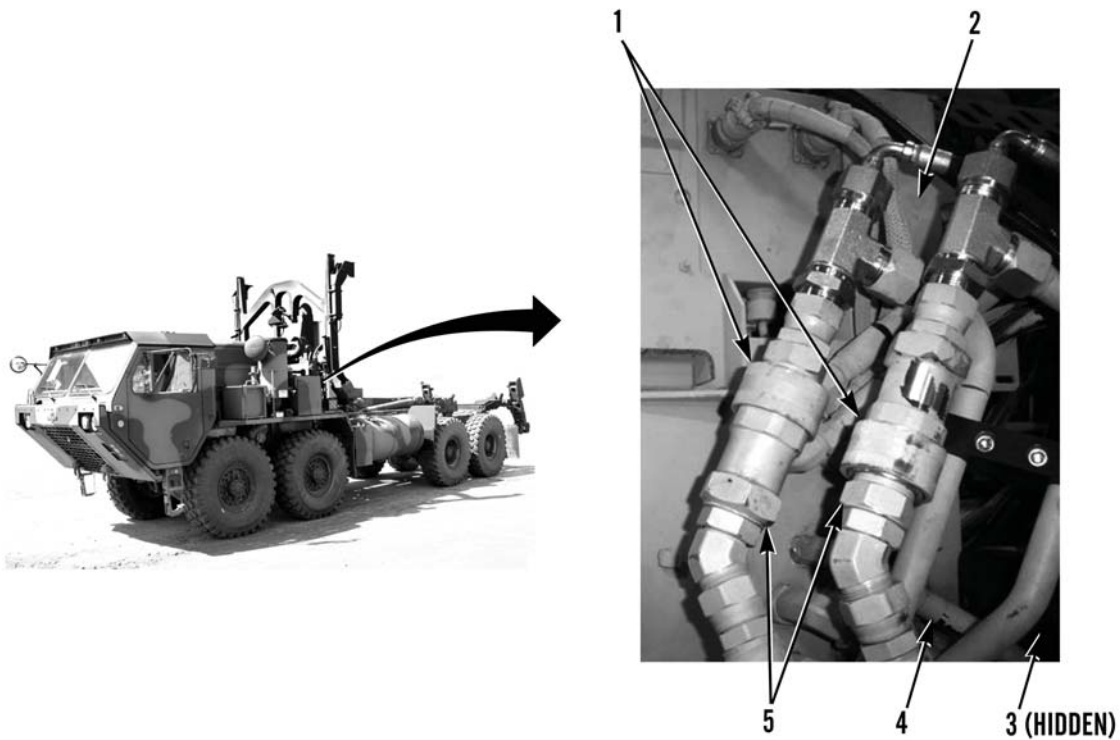

Figure 2. Remove Hydraulic Lines - HEMTT, M1120A4.
3. Disconnect two hydraulic hoses (Figure 2, Item 5) from quick connect fittings (Figure 2, Item 1) and route to under stowage assembly (Figure 2, Item 3).
4. Slowly disconnect four lower hydraulic hoses (Figure 2, Item 4) from fittings on control box (Figure 2, Item 2) and route to under stowage assembly (Figure 2, Item 3).